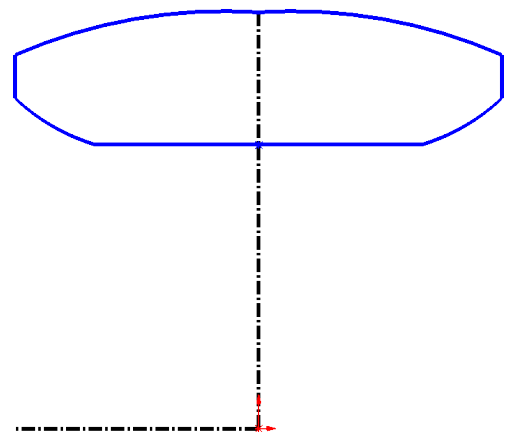

Fig. 6
Step 11. Click **Mirror Entities**  **Mirror Entities** on the Sketch toolbar, **Fig. 6**.